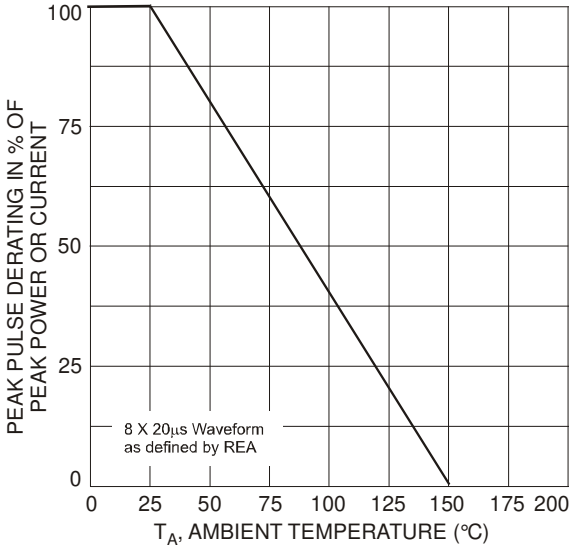
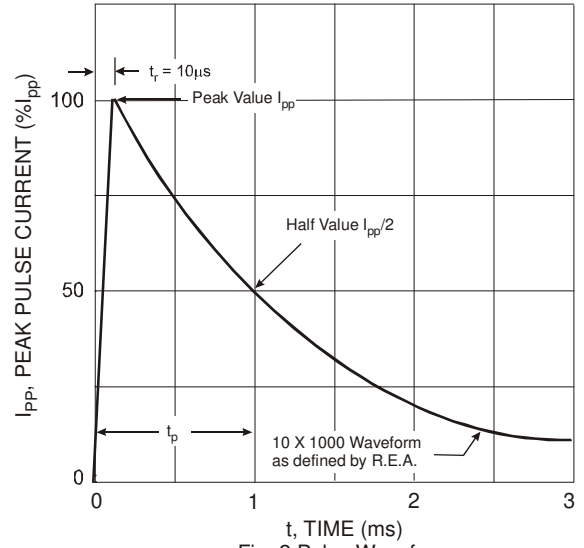
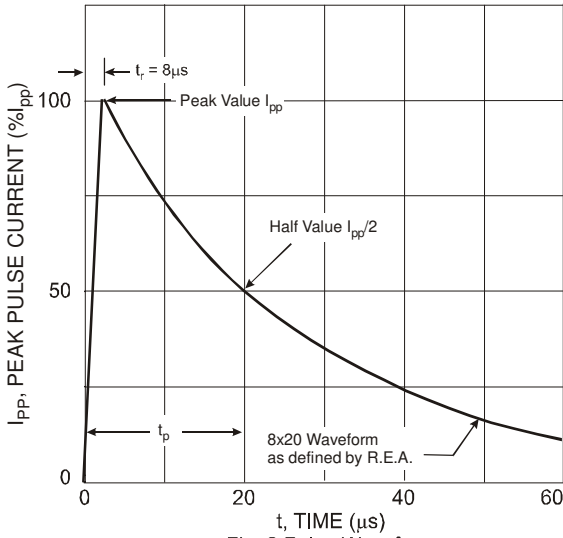

Fig. 1 Pulse Derating Curve
Fig. 2 Pulse Waveform
Fig. 3 Pulse Waveform
5. Non-Repetitive current pulse as shown in figure 2 and derated above TA = +25°C as per figure 1.
6. Non-Repetitive current pulse as shown in figure 3 and derated above TA = +25°C as per figure 1.